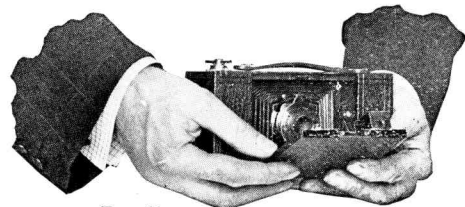

FIG. 11
3. Close front by pressing down on arm locks on each side of bed as shown in Fig. 11. The bed will now close readily.